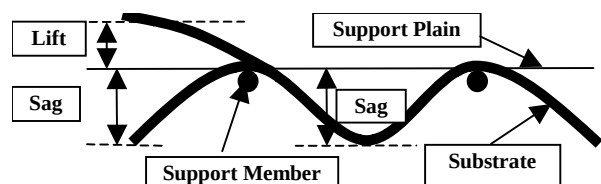

Figure 2
5.1.1.4 *lift* — lift is defined as the displacement to the bottom surface of substrate from the support plain. It is located above position from the support plain, as shown in Figure 2.
5.1.1.5 *sag* — sag is defined as the generated distance between the bottom surface of the substrate and the support plain caused by gravity, as shown in Figure 2.